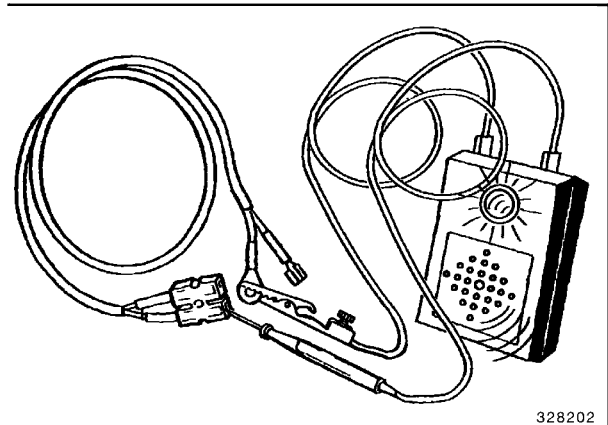

Fig. 3
1. Checking with the tester (Fig. 3)